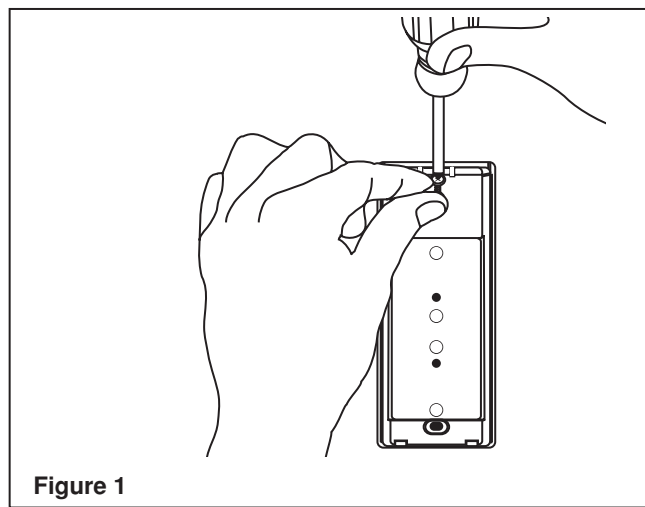

Figure 1
- Insert the first screw loosely and level the mounting plate (see FIGURE 1).